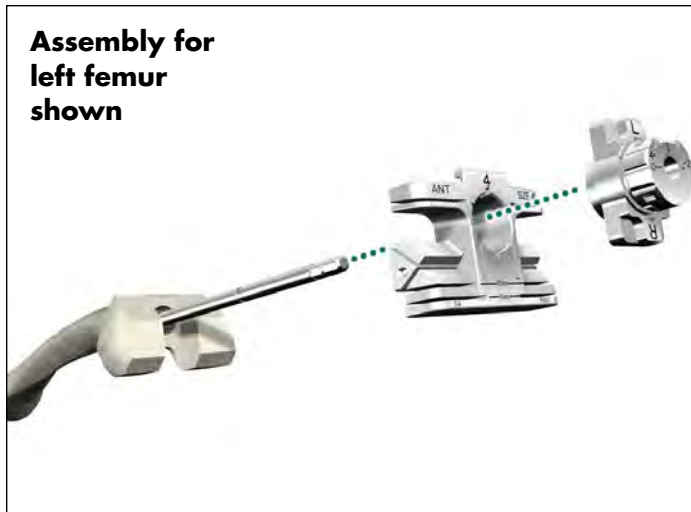

Figure 24
- Re-place the IM Reamer in the femoral canal. Slide the All-in-One Cutting Block and Femoral Offset Bushing over the shank of the IM Reamer (**Figure 24**).